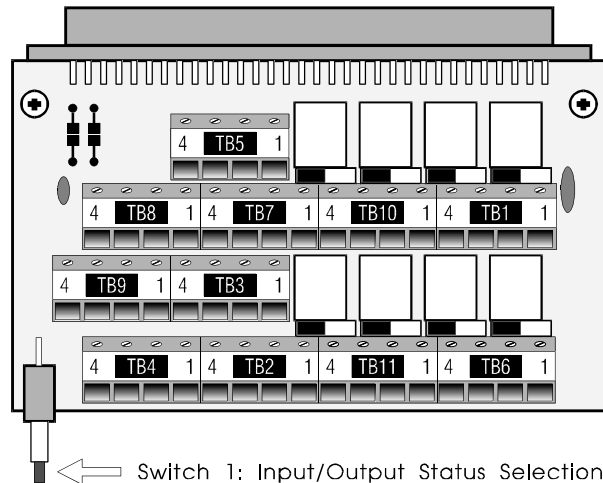

Figure 5: Location of Switch 1 on Mother Board
- 4 Circuits:** Provision is made to monitor 8 circuits. These indicators can be toggled between displaying the status (ON or OFF) of digital inputs or outputs by pressing switch 1 on the mother card (see fig. 5).
**7.2 Constant Tone Output:** A constant 1KHz tone output is provided to enable the setting up of transmitter modulation levels. If switch 1 on the mother board (see fig. 5) is depressed for 8 seconds, a constant tone is generated and PTT is asserted for 4 minutes after which it times out. The constant output can be cancelled at any time by pressing switch 1 again for 2 seconds.